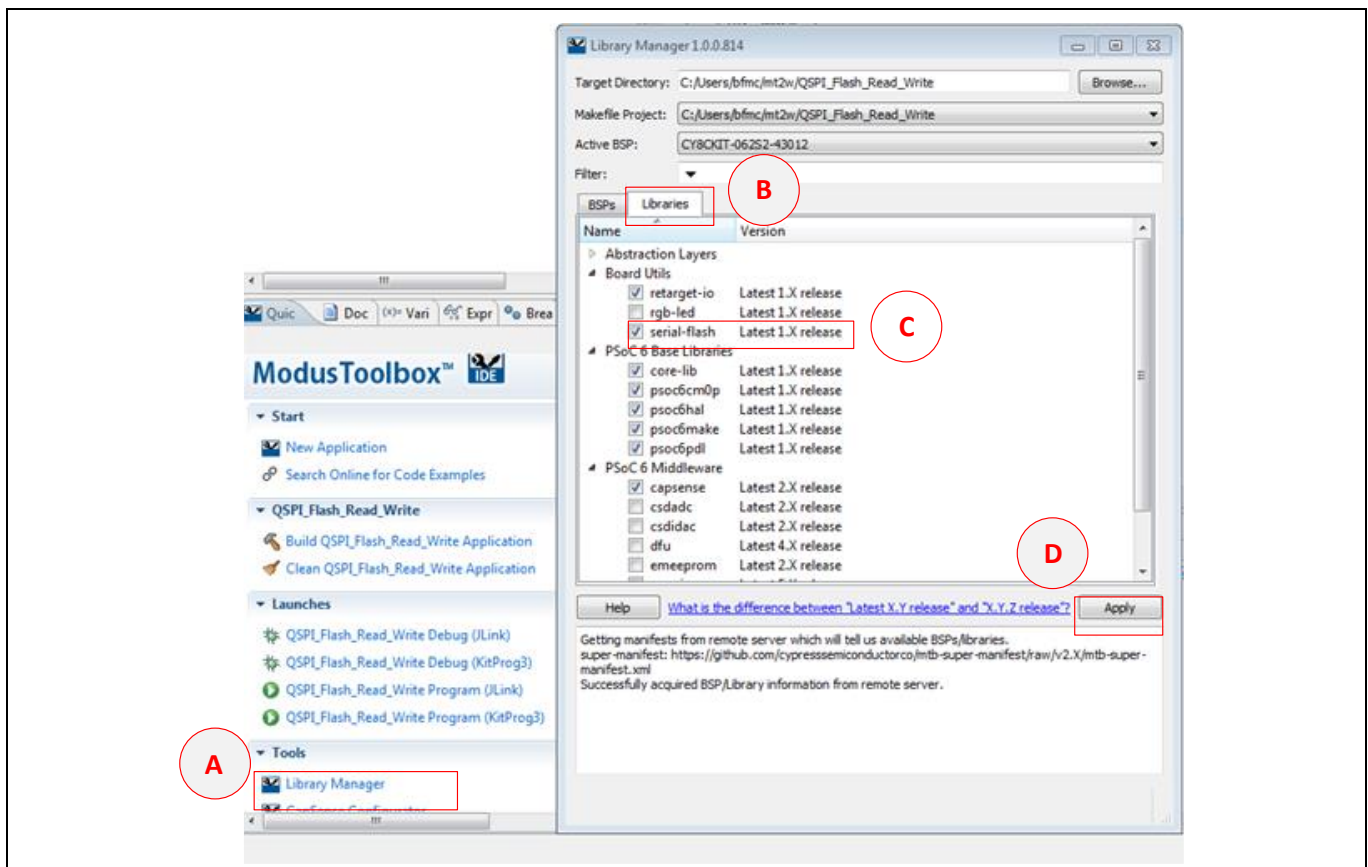

Figure 1 Adding Serial Flash Library
1. Enable the library in the **Library Manager** (see **Figure 1**)